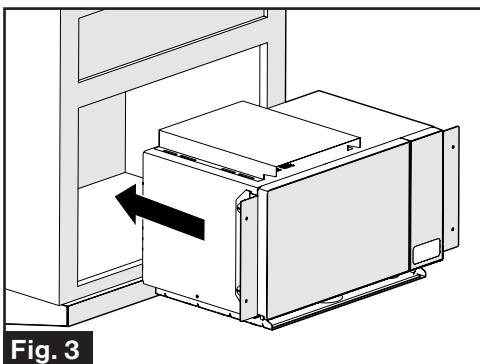

Fig. 3
- Slide the microwave oven into the cabinet opening. (Fig. 3)